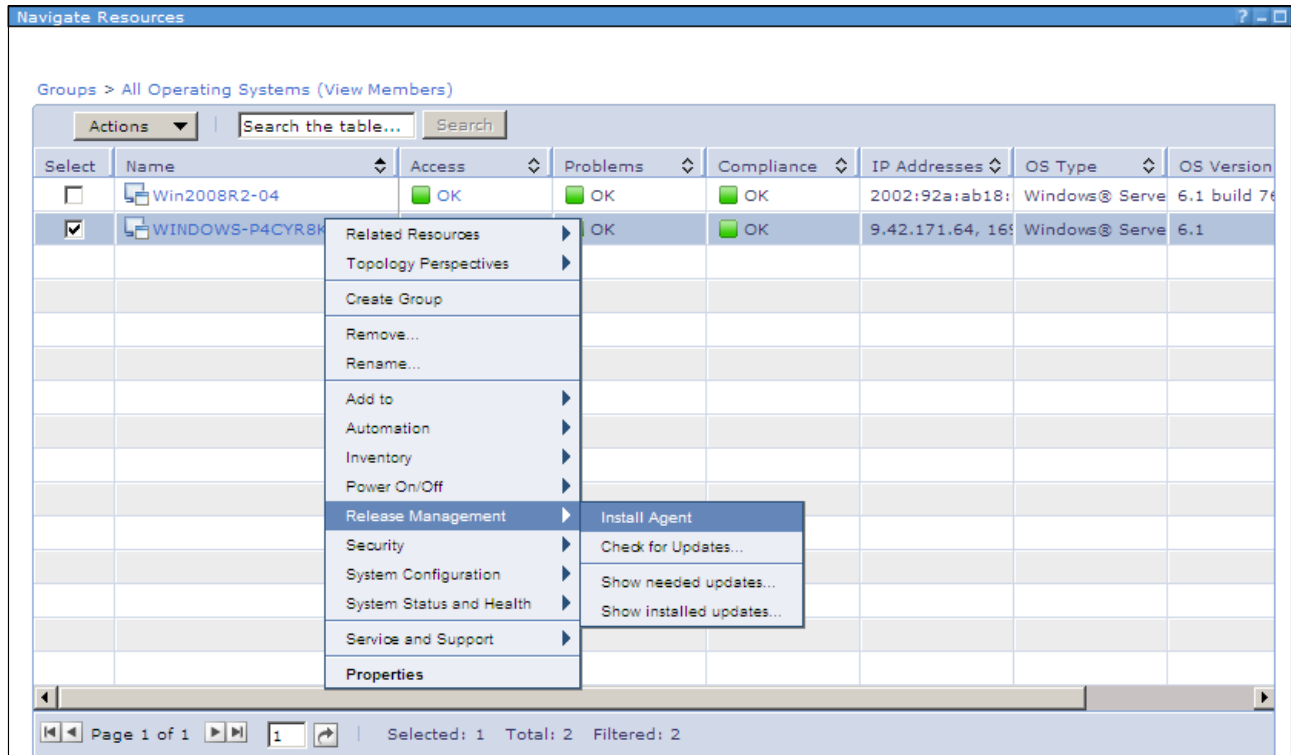

Figure 9-27 Deploying an agent to a managed system
- Right-click the operating system object that you have discovered and select **Release Management** → **Install Agent**, as shown in Figure 9-27 on page 475.